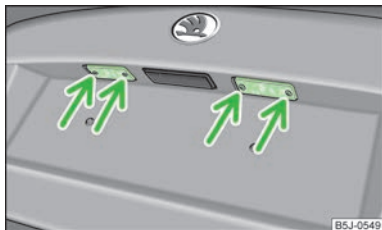

Fig. 150
- Open the luggage compartment door and unscrew the glass cover » Fig. 150.